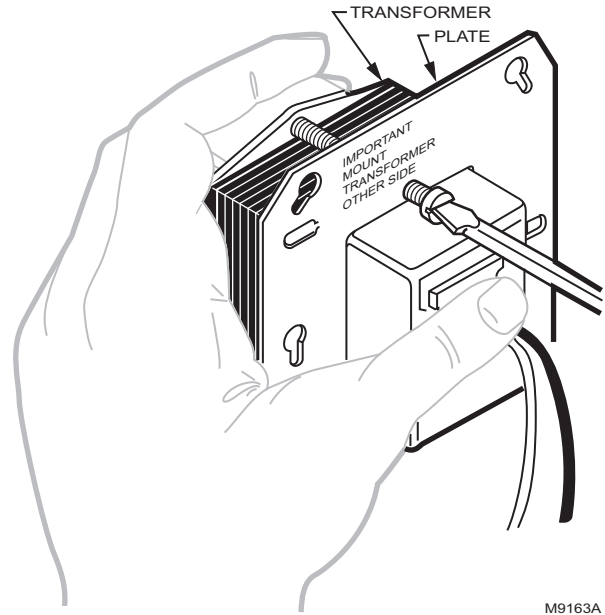

Fig. 15. Secure plate on transformer with mounting screw and tab.
4. Insert the mounting screw (provided) through the holes as shown in Fig. 15. Secure the plate to the transformer, but do not overtighten the screw.